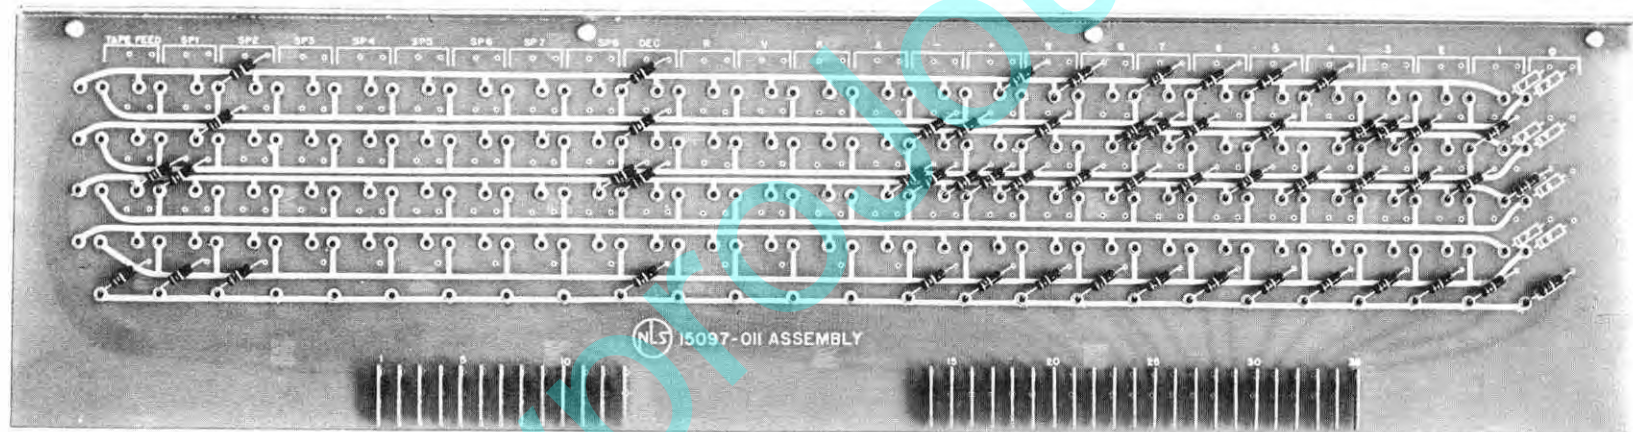

FIGURE 8
- Using SP1 for "space" and SP2 for "Tab", install diodes on the code matrix board as shown in Figure 8.